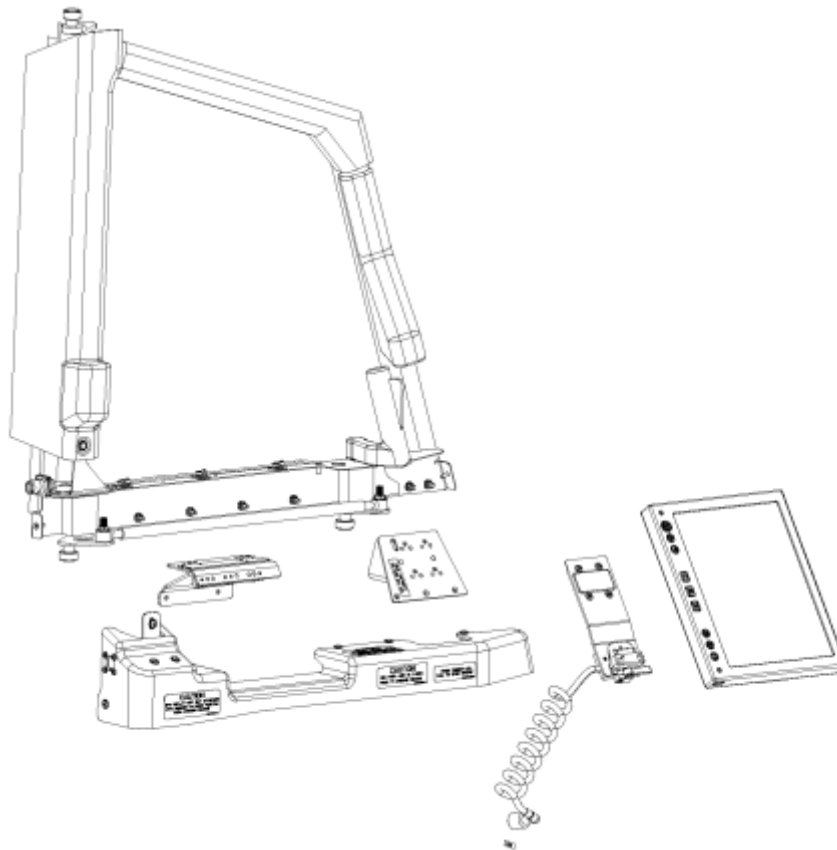

FIGURE 2: INSTALLED WINDOW TRIM, EDU MOUNTING BRACKETS, AND EDU
- » Modify the existing captain's sliding window by adding new window trim and mounting brackets under window trim that are attached to the window frame. The new window trim and mounting brackets are designed to hold an EDU mount assembly in a fixed location on the sliding window. The EDU then is docked in the EDU mount assembly. Refer to Figure 2 for details. Once installed, the EDU is not removable by flight crew; it is only removable by Maintenance using tools.